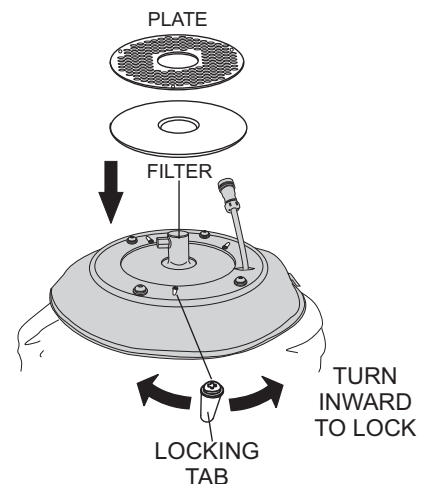

Figure 29. Filter/Plate Install
6. Turn the three retaining tabs (Figure 29) outward so that they touch the lamp base.